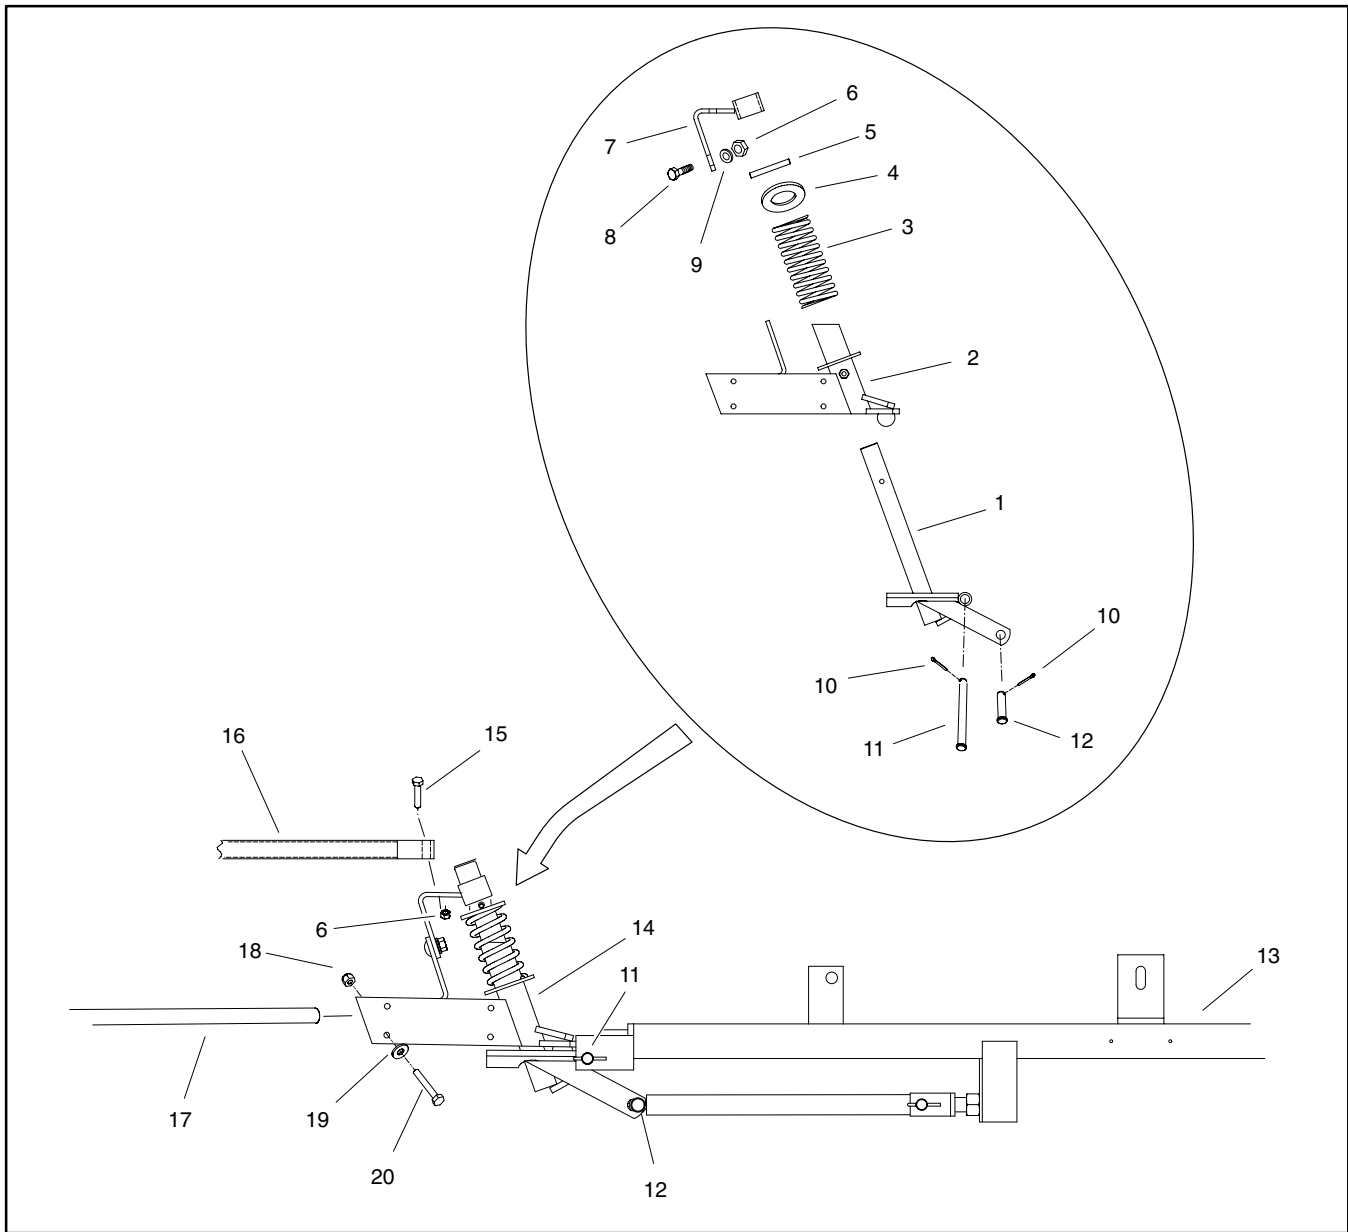

Figure 39
Disassembly (Fig. 39)
5. Complete disassembly as required using Figures 39 and 40 as guides.
Assembly (Fig. 39)
1. Assemble breakaway pivot using Figures 39 and 40 as guides.